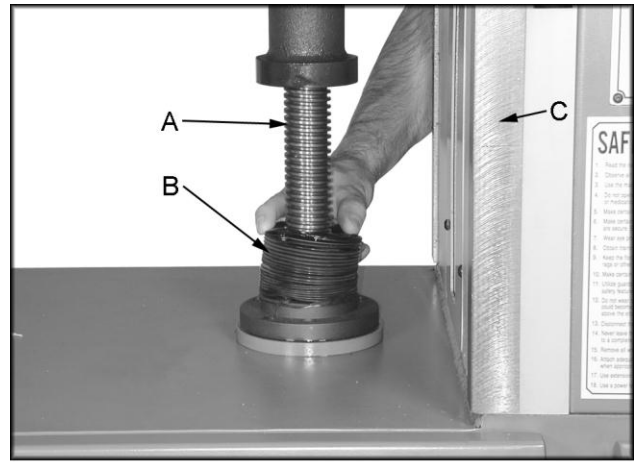

Figure 24
- Lubricate the two table elevation screws (A, Figure 24) as needed. Raise the table and remove the two screws holding the top of the accordion cover (B, Figure 24) in place. Pull the cover down and lightly grease the elevating screws, see Figure 24.
- Use an oiled cloth to wipe the ways (C, Figure 24) weekly.